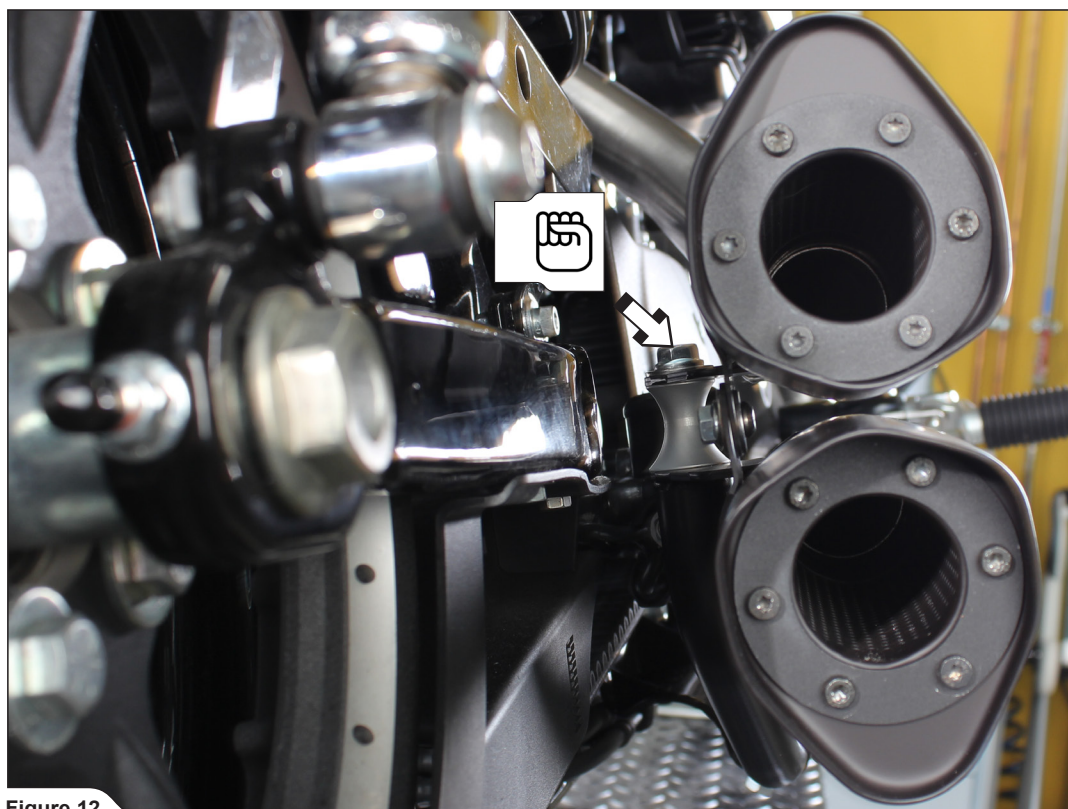

Figure 12
6. Slide the mufflers onto the headers. Align the muffler and hand tighten the bracket bolt (Figure 12).